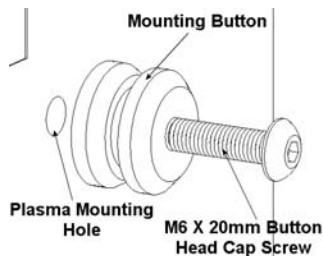
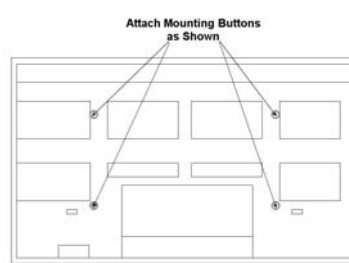

Figure 3
Figure 4
2. Attach mounting buttons to display using four M6 x 20 button head cap screws and the M4 Allen key provided (see Figure 3 & Figure 4).